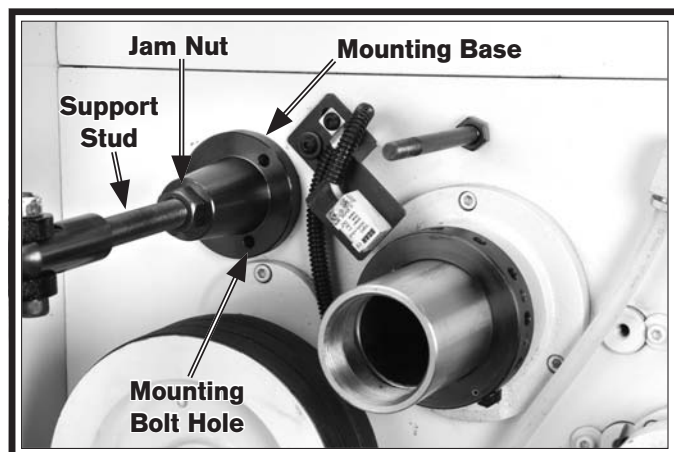

Figure 3. Base positioning on the headstock.
Note: Depending on date of lathe manufacture, the mounting location shown in **Figure 3** may have been pre-drilled at the factory to mount the collet attachment base. If this is the case, remove the three fasteners that plug the holes and proceed to **Step 8**.
4. Put on your safety glasses, then using a 1/4" center punch and the base shown in **Figure 3** as a template, mark the three mounting bolt holes on the side of the headstock.
9. Thread the support stud approximately 1" into the base. Then, using a 19mm wrench, tighten the jam nut shown in **Figure 3**.